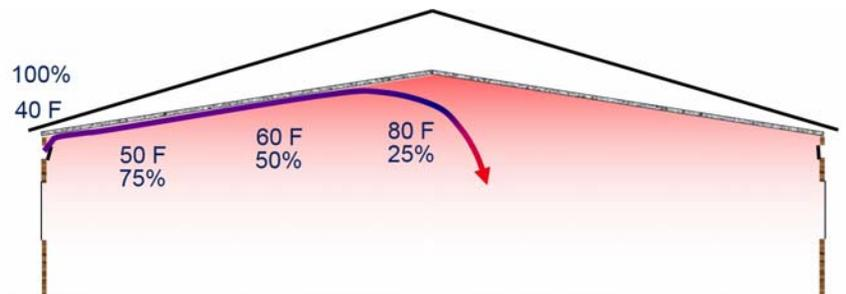

Figure 7. Conditioning of air entering through air inlet.
- 4) The calculator assumes that all the air entering the house is entering through air inlets and is warmed to near room temperature before moving down to bird level. As air is warmed the relative humidity of the air decreases, making it possible to maximize the amount of moisture removed from the air and litter in the house by each cubic foot of air brought into the house (Figure 7). If a significant portion of the fresh air enters through cracks and not air inlets the amount of moisture removed from the house will be reduced. The cold air entering through cracks may not be properly warmed and dried before moving down to floor level (Figure 8) and therefore the leakage air will remove